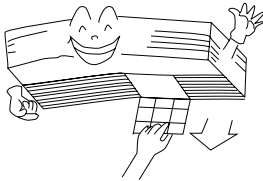

Fig.35
- 3) Remove the air filter from the unit (Fig.35)